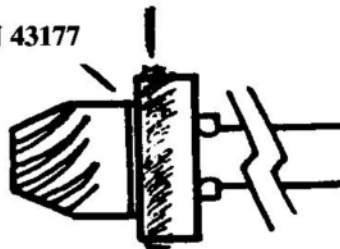

FIG 64
3. Fit new pinion with fresh loctite on thread, making sure it is tight up to spacer washer #43229, (Fig. 64) and washer does not move.
1. Clean and dry bearing. Place oil resistant gasket sealant (e.g. Fullerprene 303) around bearing as in Fig. 64.